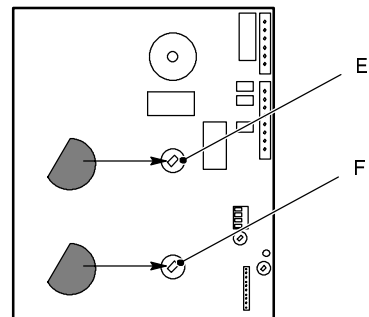

fig. 48
- 2 insert the spindles in the potentiometers *E* and *F* (fig. 48) and rotate them fully clockwise;
- 3 extract the spindles and insert them with the flat side pointing in the direction shown in fig. 48;